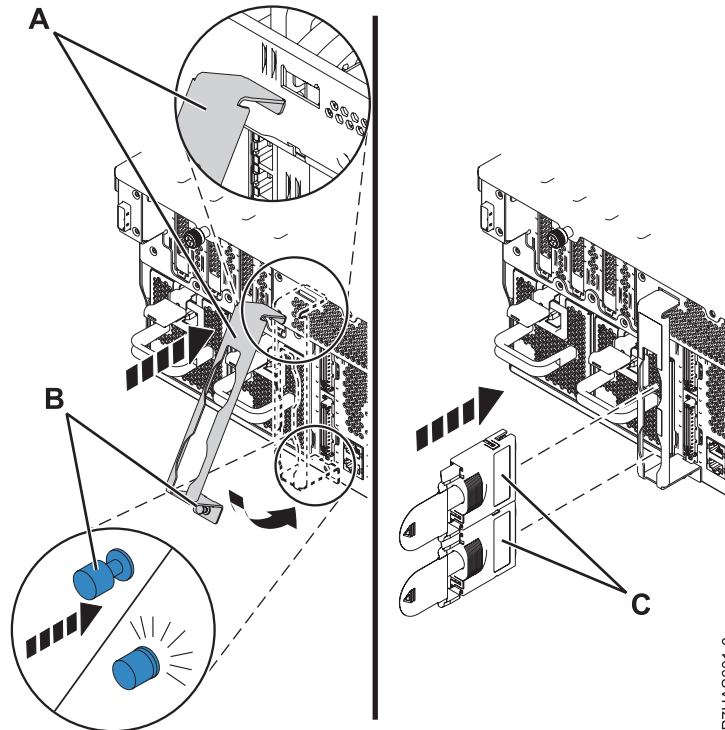

Figure 3. Installing the cable retention bracket
15. If the cable retention bracket (**A**), shown in Figure 3 on page 4 is provided, complete the following steps:
- a. Tilt the cable retention bracket (A), shown in Figure 3, to hook the tab at the bottom of the bracket into the slot in the assembly.
- b. Swing the cable retention bracket toward the chassis and push the bracket fastener (B) into the chassis opening to secure the bracket.
- c. From the rear of the system, attach the adapter cables (C).